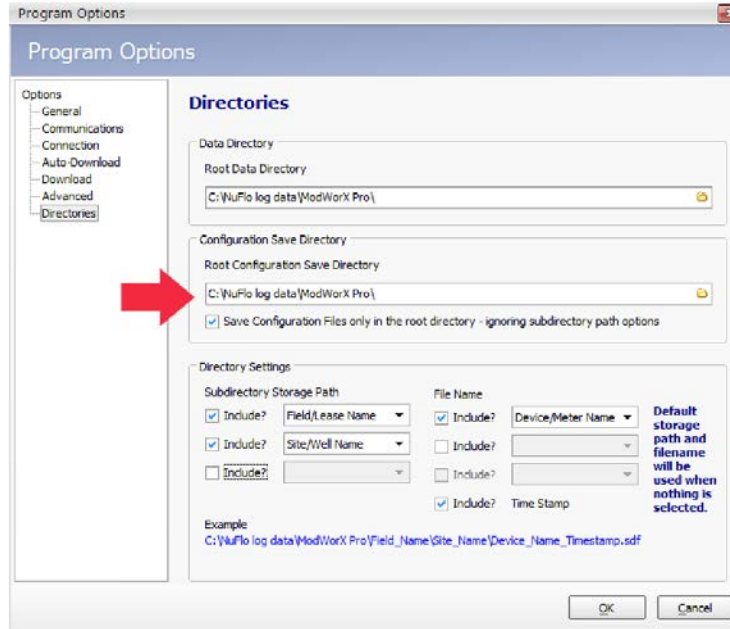

Figure A.26
- To change the directory to which configuration data is saved, click in the Configuration Save Directory portion of the dialog (Figure A.26, page A-18) and type the desired filepath or click the Folder icon to browse to the desired directory.